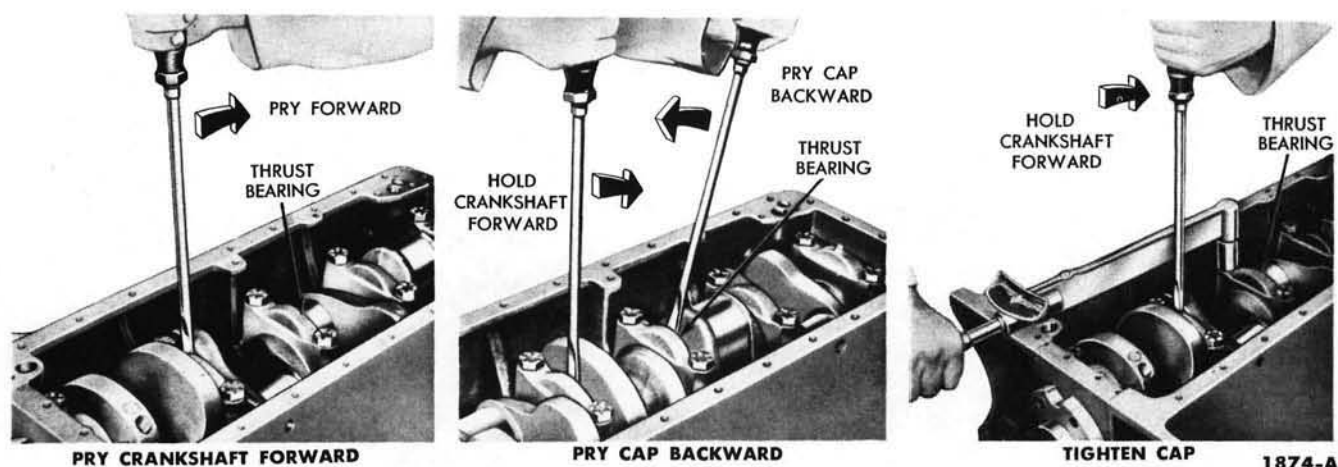

FIG. 43—Thrust Bearing Alignment
4. Install the thrust bearing cap with the bolts finger tight, then pry the crankshaft forward against the thrust surface of the upper half of the bearing (Fig. 43). Hold the crankshaft forward and pry the thrust bearing cap to the rear (Fig. 43). This will align the thrust surfaces of both halves of the bearing. Retain the forward pressure on the crankshaft, and tighten the cap bolts to 150-164 foot-
pounds torque (Fig. 43).